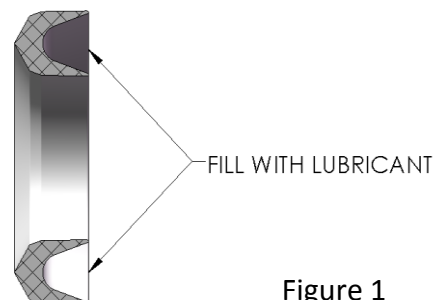

Figure 1
7. ***Fill*** the inside "V" of all V-packs [20F] stacking (3) together and install over Gland Stem [20M] placing on top of Male Adapter [20G] (as shown in Figure 1).